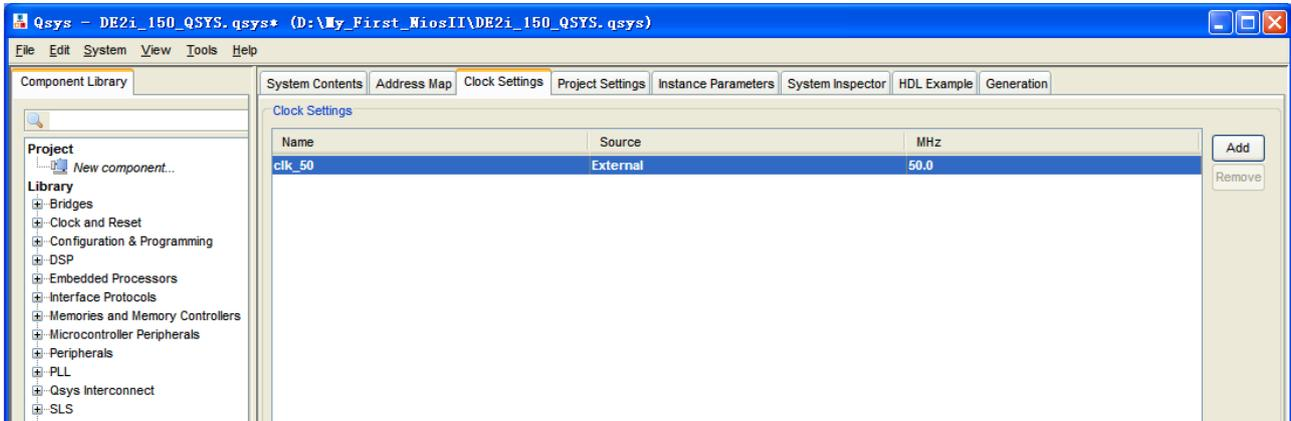

Figure 1-14 Rename Clock Name
8. Click the Name of the Clock Settings table, rename `clk_0` to `clk_50`. Press Enter to complete the update. See Figure 1-14.